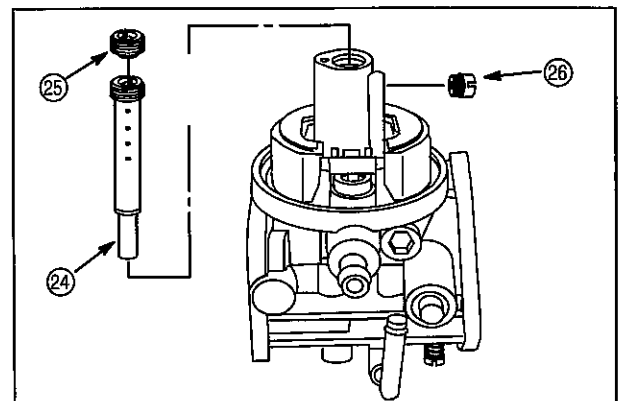

Fig. 56
- 16. Install emulsion tube (24), **Fig. 56**, using Screwdriver #19062.
- 17. If carburetor is equipped with anti-afterfire solenoid, install solenoid seat (25).
- 18. Install fixed main jet (26) using Screwdriver #19061.